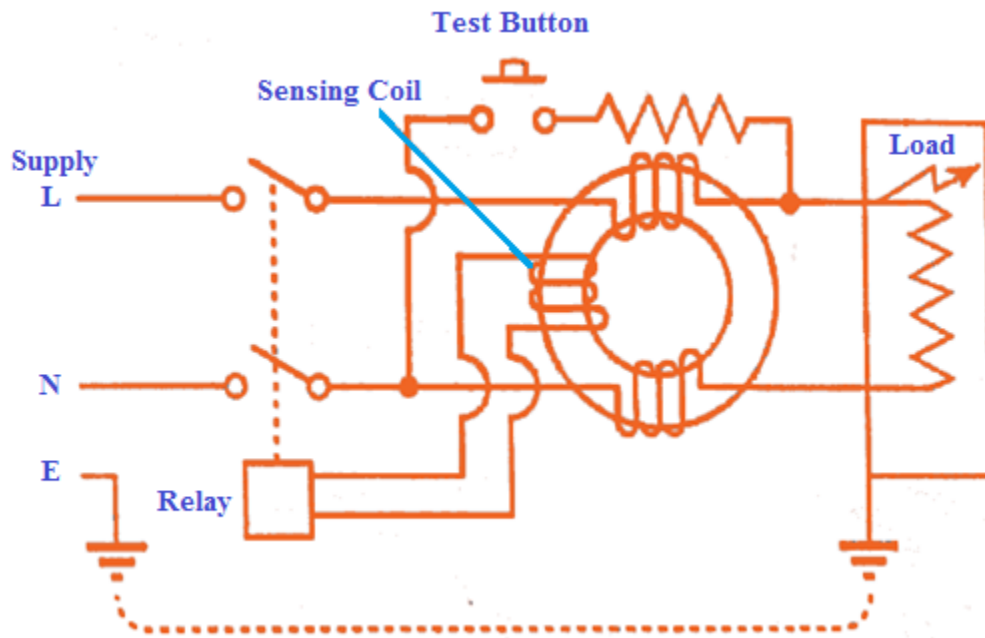

Fig.5.22 Current operated ELCB.
- The figure 5.22 shows the circuit diagram of a residual-current earth leakage circuit breaker.